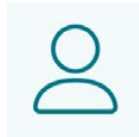

Figure 133. User Menu
1. Open the main menu by clicking the top left icon. See **Figure 133**.